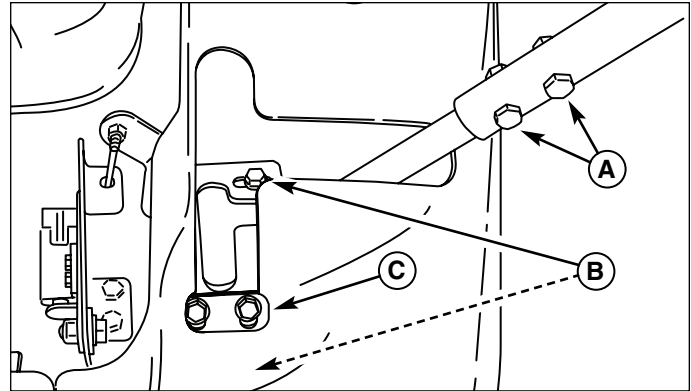

Figure 8. Motion Control Lever Adjustments
To Adjust the Lever Placement: Loosen the two bolts (B, Figure 8) securing the control track, and adjust the control track in or out to properly adjust the lever end spacing.
To Adjust the Handle Height: Remove the motion control lever mounting hardware (A, Figure 8) and reposition the lever either up or down from its original position. You may need to readjust the handle placement as described above.
1. Loosen the two bolts securing the forward adjust plate (C, Figure 8).